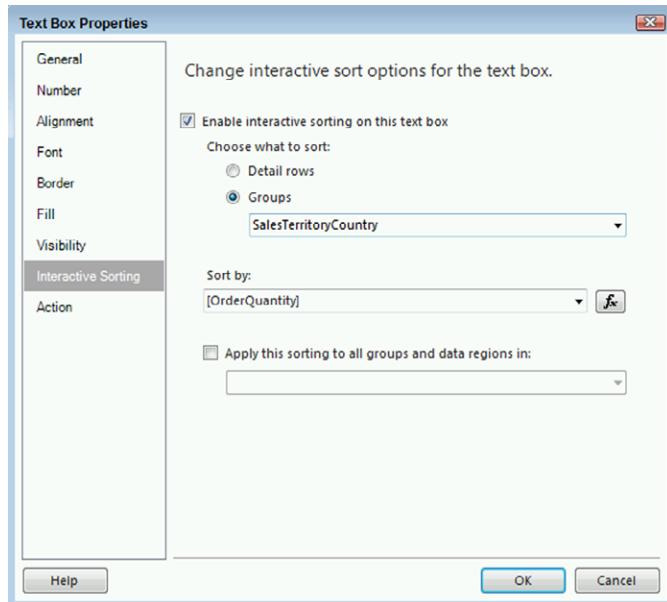

Figure 5-6
5. Select which field you want to sort the data by changing the Sort by property (shown in Figure 5-6), then click OK.